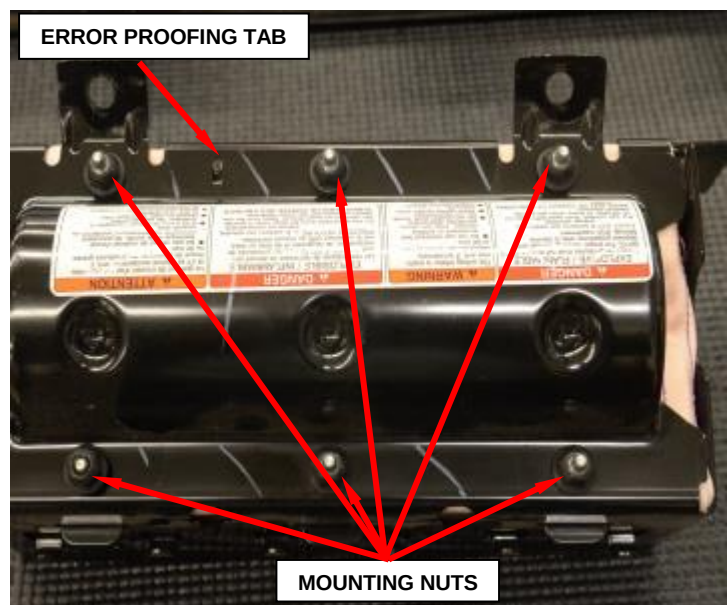

Figure 26 – Mounting Nuts
NOTE: Ensure proper inflator assembly fit. Note error proofing tab when reassembling to cushion (Figure 26).
- m. Install the six **new** mounting nuts and tighten to 88 in. lbs. (10 N·m) (Figure 26).